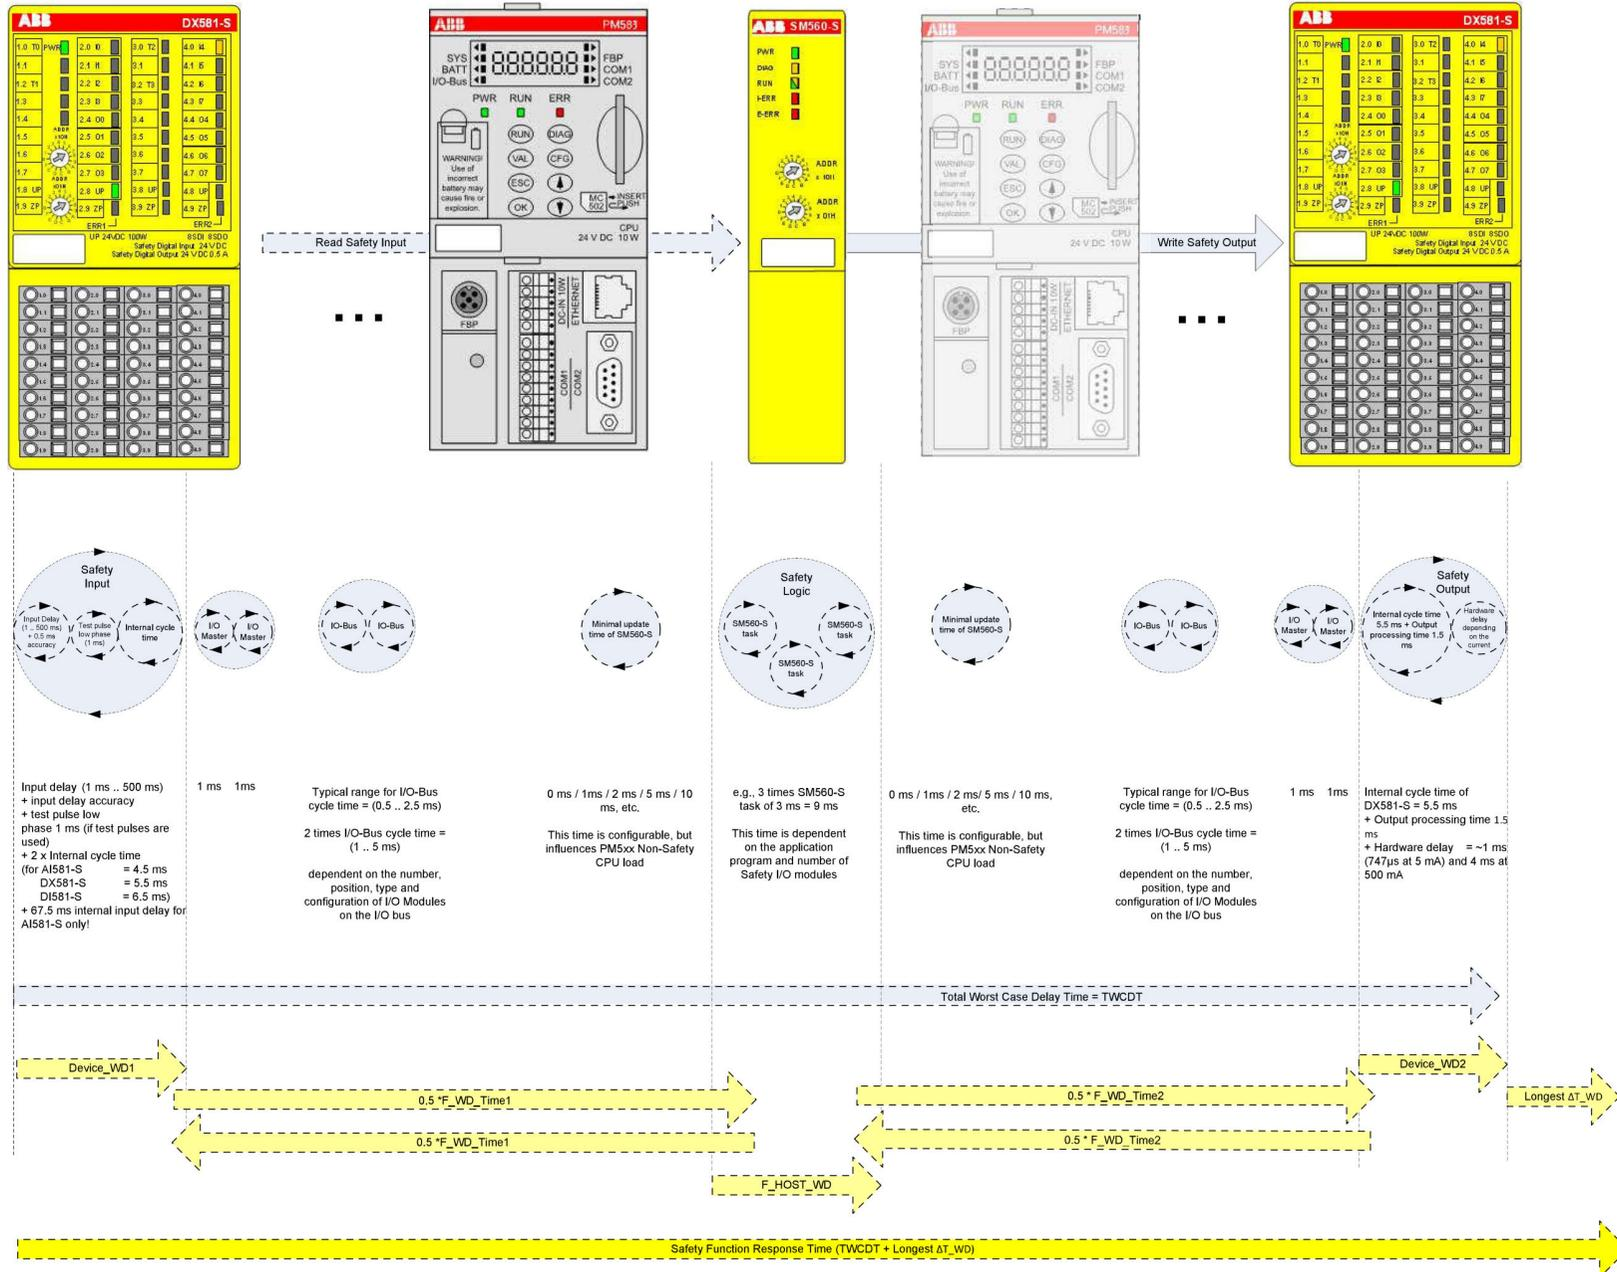
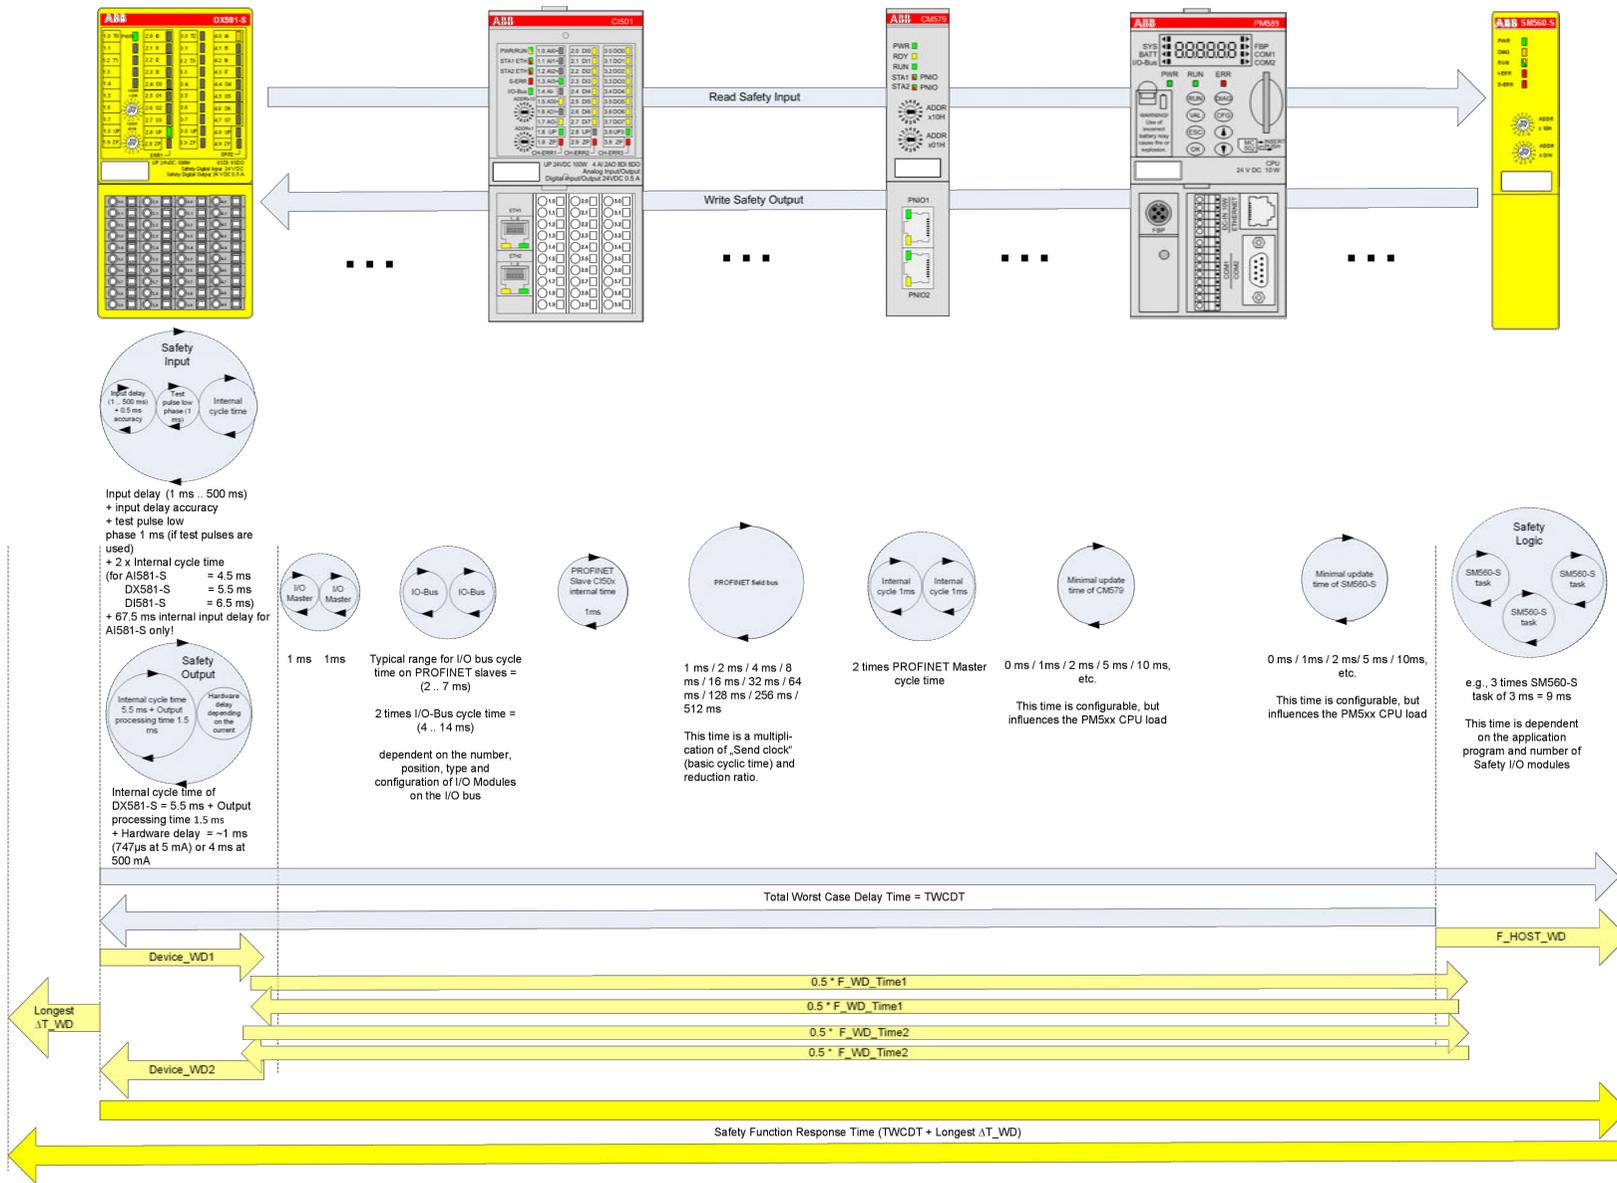

Fig. 126: SFRT in AC500-S system without PROFINET components
Fig. 127: SFRT in AC500-S system with PROFINET components
Fig. 126 and Fig. 127 explain SFRT in more details. The model in Fig. 126 and Fig. 127 includes the stages of input signal reading, safe data transfer, safe logic processing, safe data transfer and safe signal output.
The following terms are defined in Fig. 126 and Fig. 127:
- Device_WD1 and Device_WD2 as worst case delay times for Safety I/Os can be directly calculated as it is shown in Fig. 126 and Fig. 127.
- It is not always easy to calculate the worst case delay time of “Black channel” components (see AC500 Non-safety modules in Fig. 126 and Fig. 127). Thus, we propose to use half of F_WD_Time1 and F_WD_Time2 instead. F_WD_Time1 and F_WD_Time2 can be empirically obtained for the given AC500 system configuration by tracing the values of tResponseTimeMS for given Safety I/Os in the safety application. Use PROFIsafe instance for the given Safety I/O (↳ *Chapter 4.6.3 “Safety-Base_PROFIsafe_AC500_V22.lib” on page 230*). F_WD_Time1 and F_WD_Time2 shall be set about 30 % higher than the worst case value observed in the tResponseTimeMS for the given Safety I/O.
Based on Fig. 126 and Fig. 127, the following exemplary SFRT values can be achieved for some typical AC500-S configurations using Equation 2, page 398: